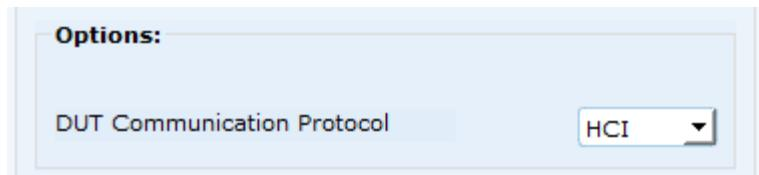

Figure 17. DUT communication protocol setting in RTX2254
- HCI in EUT Communication Protocol (Figure 17).